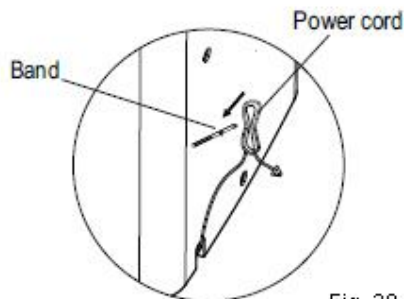

Fig. 28
- Once dry, stop the air conditioner, unplug, wrap the power cord and bundle it with tape (See Fig.28). Remove the batteries from the remote control.